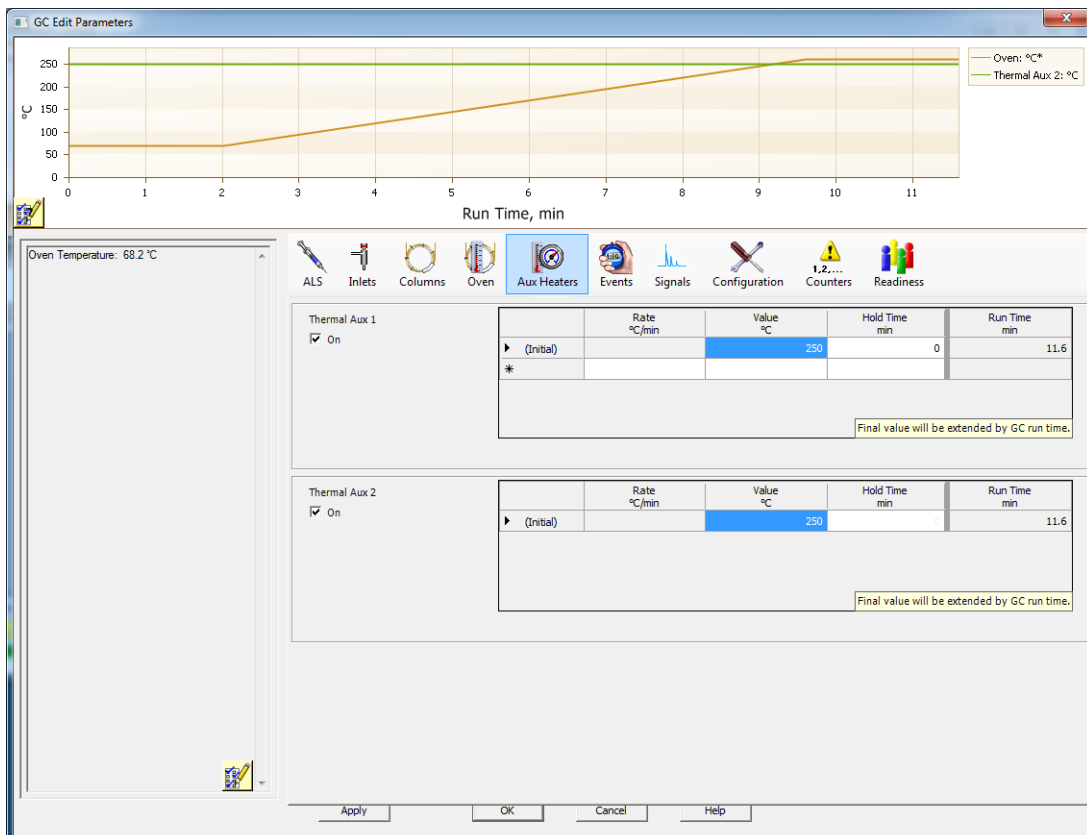

Figure 20 Setting the interface temperature
- 3 Click the **Aux** icon to edit the interface temperature (Figure 20).